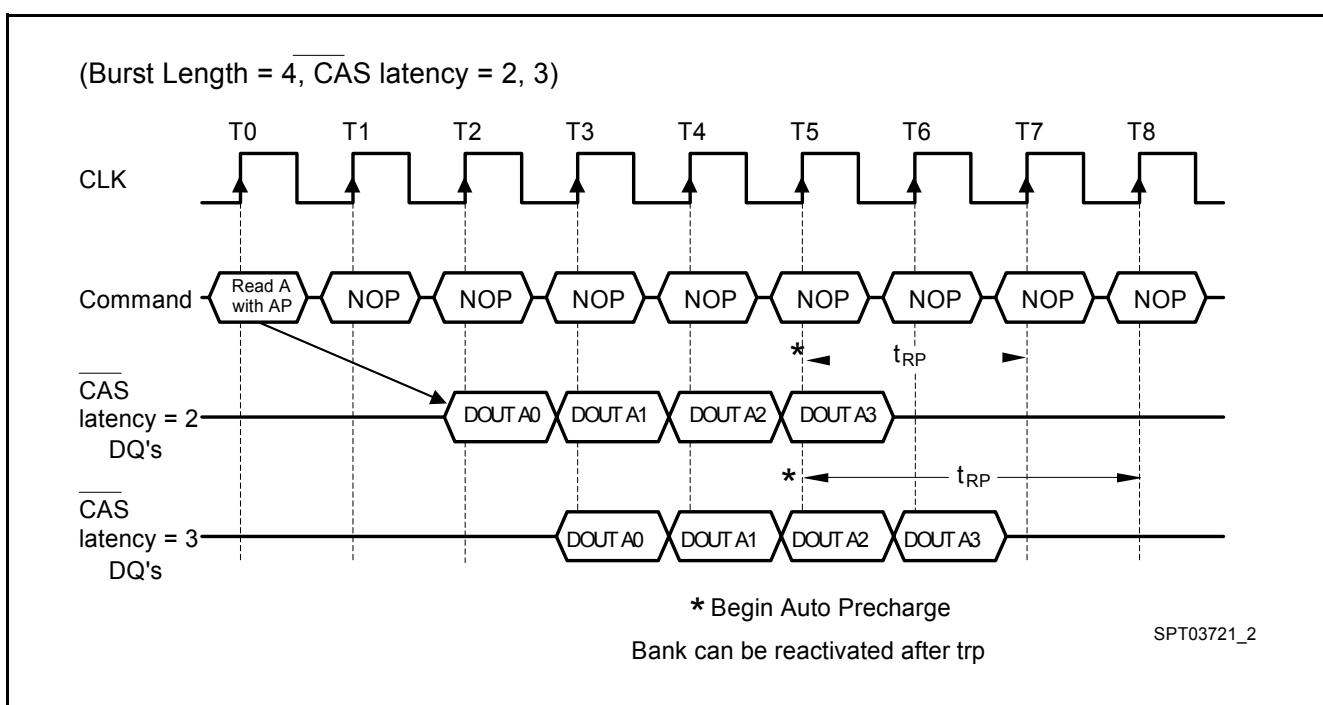

Figure 15 Burst Read with Auto-Precharge
- Figure 15 Burst Read with Auto-Precharge